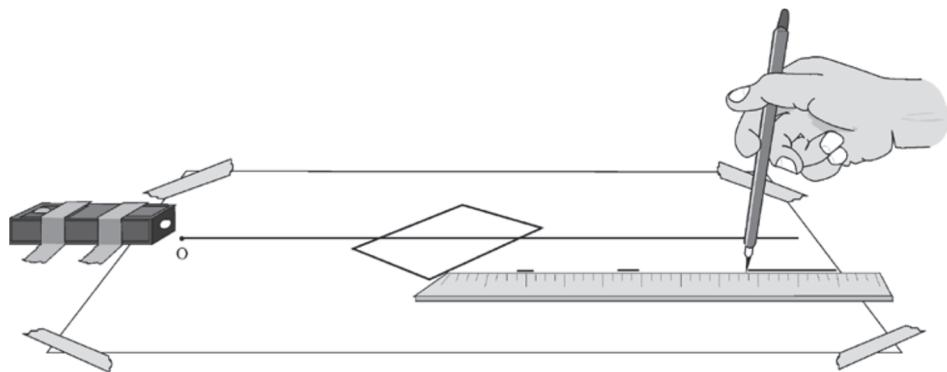

Figure 6 – Refracted Beam Drawing Illustrated
5. Remove the block. Draw a best-fit straight line through the marks along the exit beam path. Refer to Figure 6.